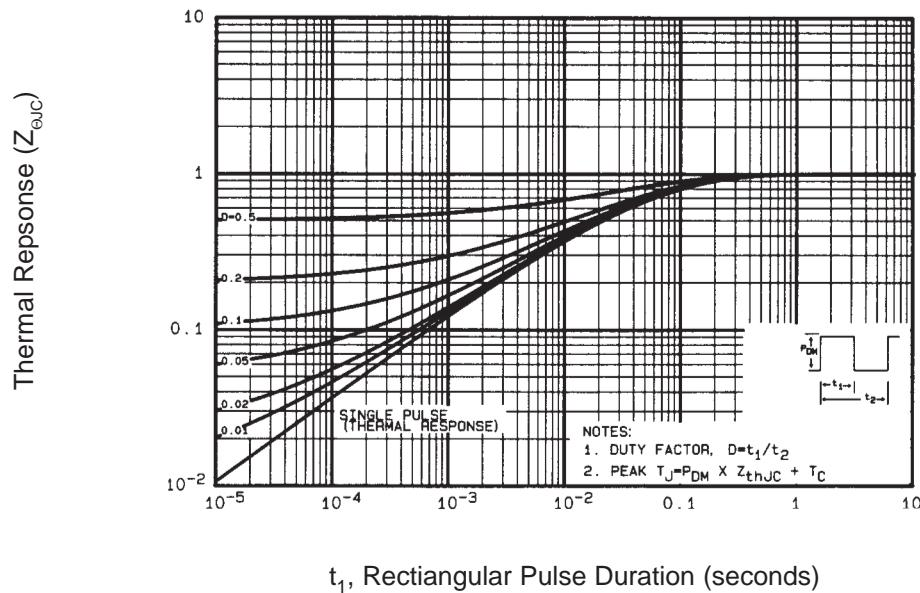

Fig. 11 Maximum Effective Transient Thermal Impedance, Junction-to-Case
① Repetitive rating; pulse width limited by max. junction temperature. (See fig. 11)
③ $I_{\text{SD}} \leq 52\text{A}$, $dI/dt \leq 250\text{A}/\mu\text{s}$, $V_{\text{DD}} \leq V_{(\text{BR})\text{DSS}}$, $T_J \leq 175^\circ\text{C}$